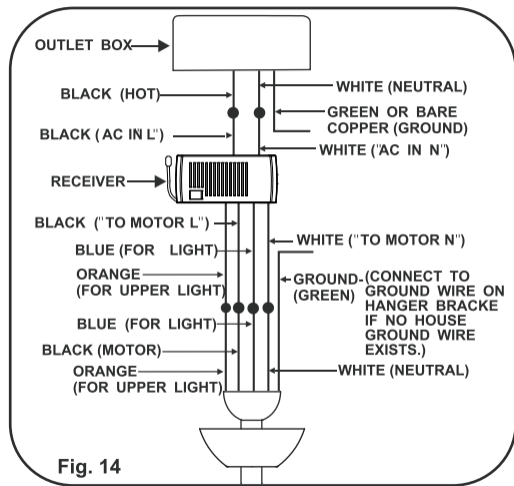

Fig. 14
NOTE: If your ceiling fan features an UP Light: Connect the ORANGE wire from the fan to the ORANGE wire marked "For Up Light" from the Receiver. Otherwise disregard this step and proceed to secure all wire connections with the plastic wire nuts provided. (Fig.14)
Step 3. Receiver to House Supply Wires Electrical connections: Connect the **WHITE** wire(Neutral) from the outlet box to the **WHITE** wire marked "AC in N" from the receiver. Connect the **BLACK** wire(Hot) from the outlet box to the **BLACK** wire marked "AC in L" from the receiver. Secure all wire connections with the plastic wire nuts provided. (Fig.14)
Step 4. If your outlet box has a **GROUND** wire (Green or Bare Copper) connect this wire to the Hanger Ball and Hanger Bracket Ground wires. If your outlet box does not have a Ground Wire, then connect the Hanger Ball and Hanger Bracket Ground Wire together. Secure wire connection with the plastic wire nut provided. (Fig.14)